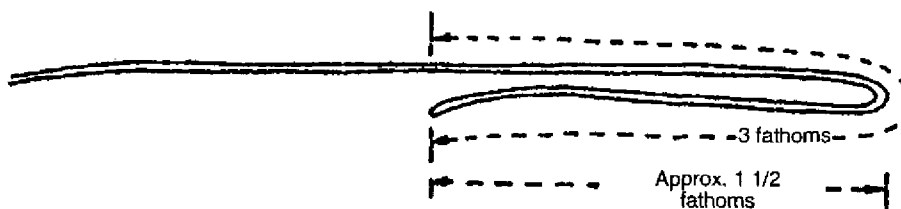

Fig. 3-52-1
- (a) Fold one end of a rope. (Fig. 3-52-1)